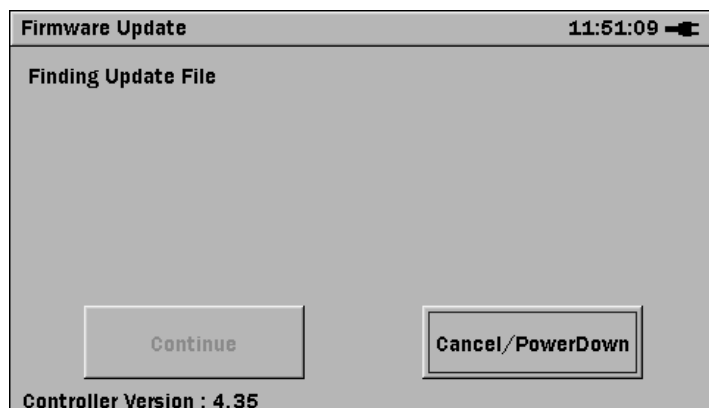

Figure 6.1-1 First Firmware Update Screen
4. Release the **Menu/Power** key when the Anritsu splash screen appears, but continue pressing the **F1** key until the first **Firmware Update** screen is displayed (Figure 6.1-1).